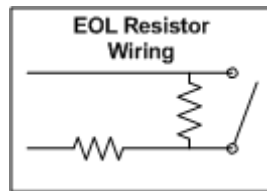

Figure 18. EOL Resistor Wiring
- e) The other wire from the ACS5000 is connected to wire 2 from the switch, as shown in Figure 18.